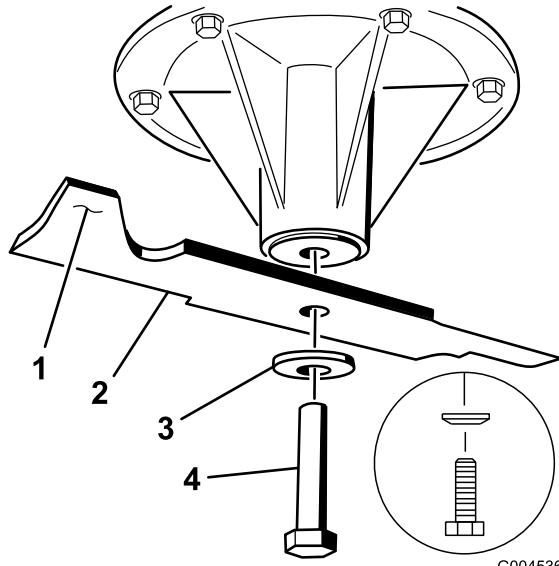

Figure 58
2. For 40 and 48 inch mower decks, remove the blade bolt, curved washer, and blade from the spindle shaft (Figure 58).
3. If the blade stays in a horizontal position, the blade is balanced and can be used. If the blade is not balanced, file some metal off the end of the sail area only (Figure 58)
1. Install the blade onto the spindle shaft (Figure 58).
Important: The sail part of the blade must be pointing upward, toward the inside of the mower to ensure proper cutting (Figure 58).
2. For 40 inch and 48 inch mower decks, install the blade, curved washer, and blade bolt (Figure 58).